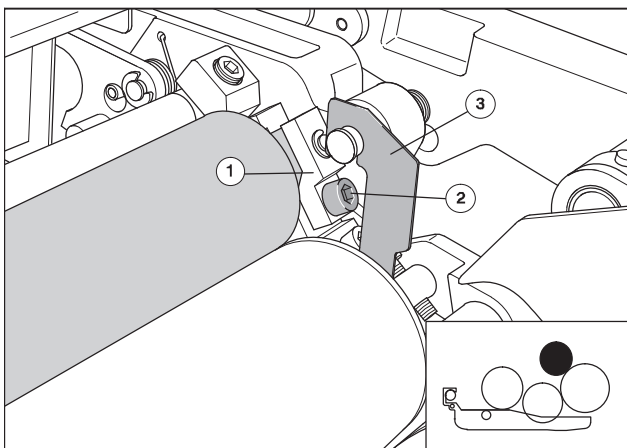

Fig. 31 Inserting the dampening distributor
3. Place the cap (Fig. 31/1) on the shaft and screw to the bearing with the Allen screws (Fig. 31/2).
4. Insert the gaskets (Fig. 31/3) again.